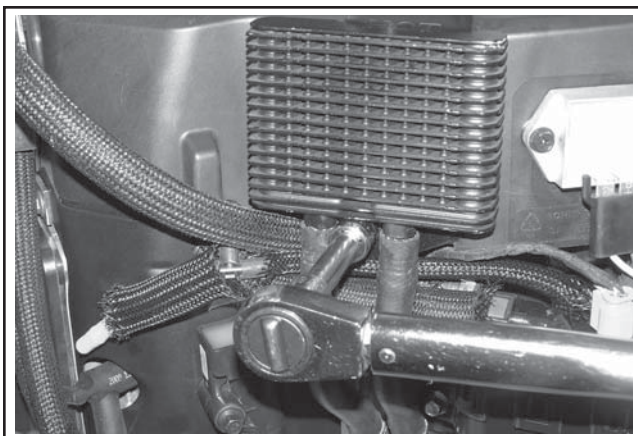

Figure 10-91. Install Oil Cooler.
2. Verify all fuel and vent hoses are routed properly and not pinched. Install the two hex flange screws to secure the oil cooler to the blower housing. Torque the top screw to **2.8 N·m (25 in. lb.)** and the lower screw to **2.3 N·m (20 in. lb.)**. See Figure 10-91.